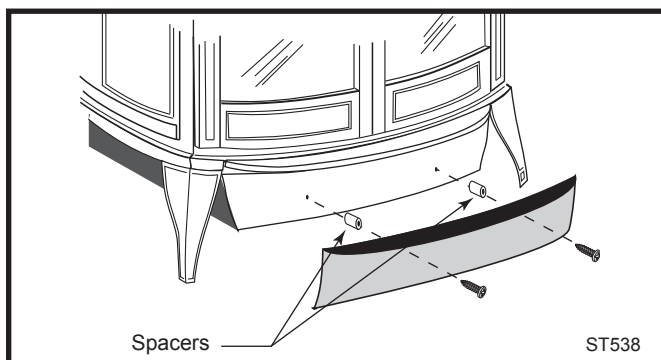

Fig. 21 Install the ashdoor heat shield.
The stove is shipped with the legs attached. In some instances, the legs may have been removed. Follow these instructions to reattach the legs. Install the stove legs (Fig. 21) using the hex head bolts from the parts bag. Use 3/8" washers with all four legs; the door handle holder installs on the right front leg. Position the holder so the hole to accept the handle hub faces out from the right side of the stove. Tighten the bolts firmly.
2. Insert the screws through the ash door heat shield (from the painted side), place the 8 mm (5/16") spacers over the screws, and carefully thread them back into the original holes. (Fig. 21) The curved lip should be upward, under the ashlip of the stove.